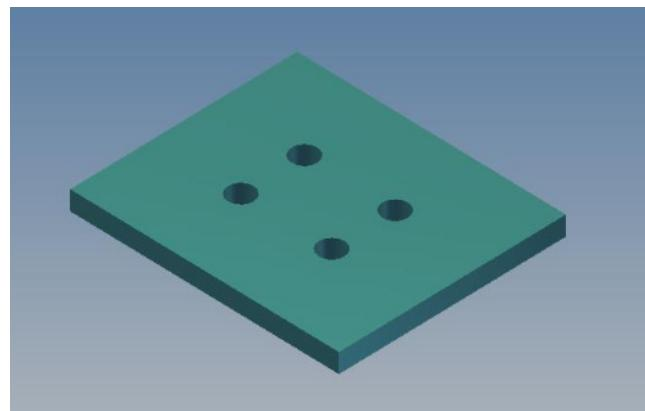

Fig. 5 Distance plate
- 3.2.4 Fixing of wall corners and T-joints by bolting with top wall corner joint (Fig. 4) resp. top T-Connecting joint (Fig. 5).